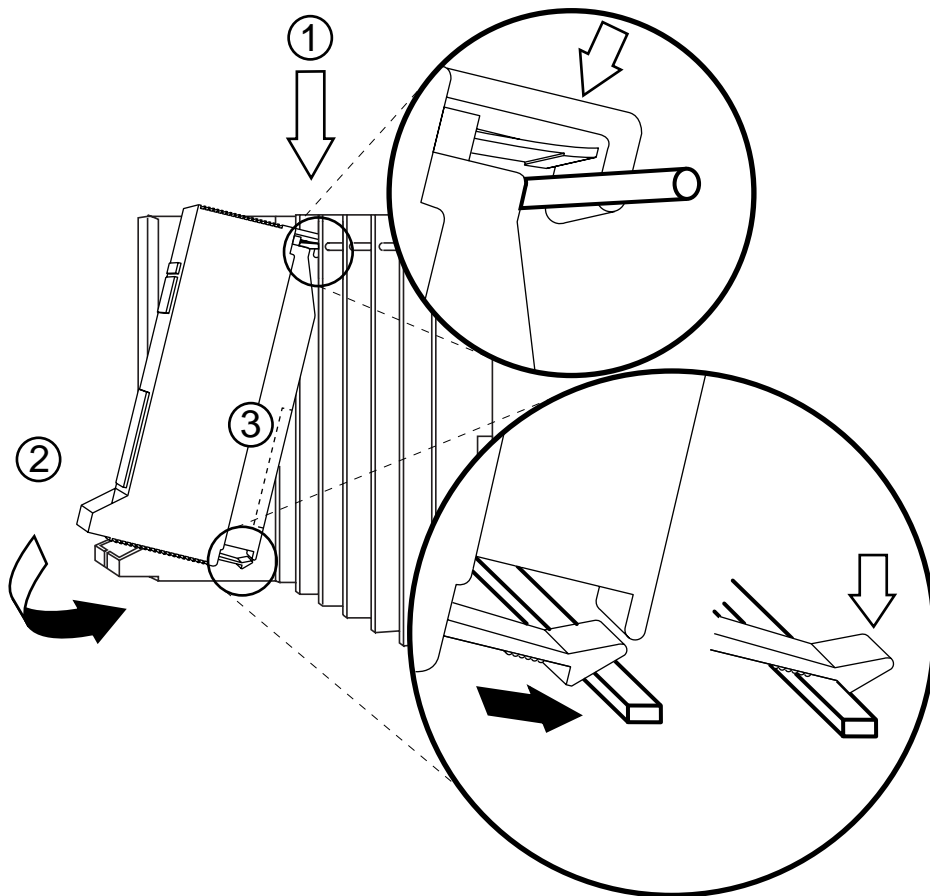

Figure 2-10. Installing the Processor into the Carrier
- ▶ **3. Lower the hook on top of the module onto the rod on the top of the carrier in the appropriate slot. See Figure 2-10 on page 2-32.**